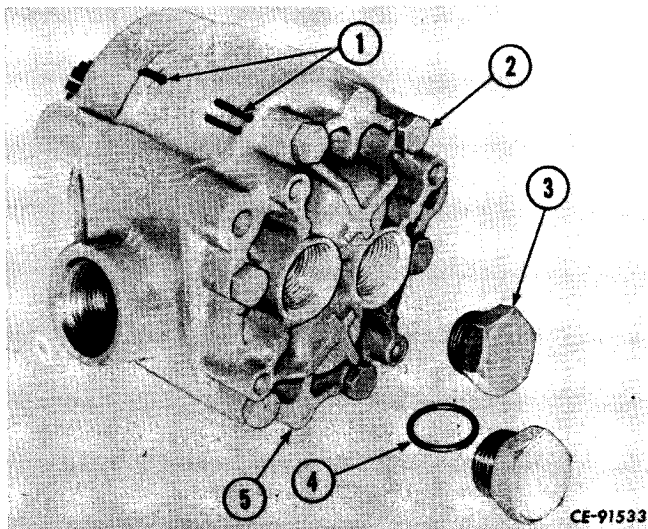

Figure 3-47
Scribe reference marks (1, Fig. 3-47) on pump housing to aid in positioning parts dur-
Install the cover (5, Fig. 3-47) making sure the reference marks (1) are aligned. Install the cap screws (2) and tighten to the recommended torque (refer to "SPECIAL TORQUES").